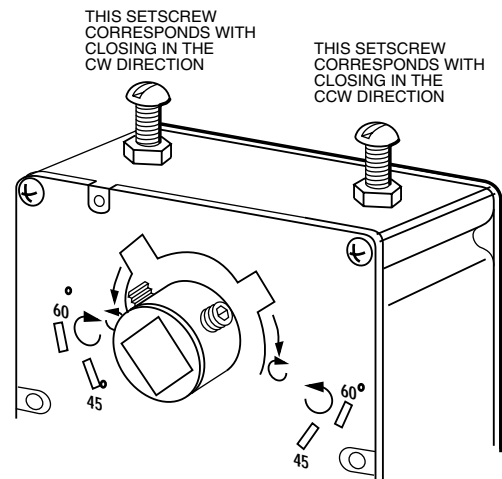

Fig. 10. Setscrew location for KA-35-VAV and KA-70-2T.
All KA-35-VAV, KA-70-2T, KA-35-P, and KA-70-P models are equipped with two tapped holes located in the plastic housing at the top of the actuator. These holes can be used with the minimum position setscrew and locknut inside the 4074ENJ Bag Assembly (see Fig. 10). The setscrew provides for a 0° to 30° minimum position adjustment.
3. Determine the correct hole for the setscrew using Fig. 10 and the results of step 1.